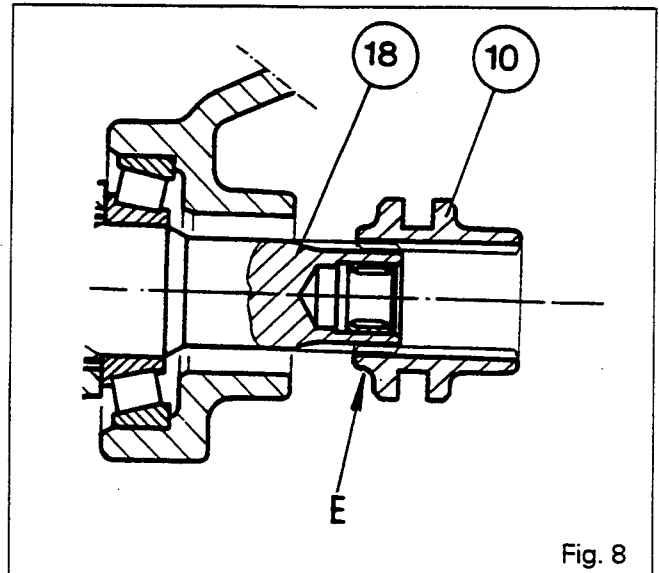
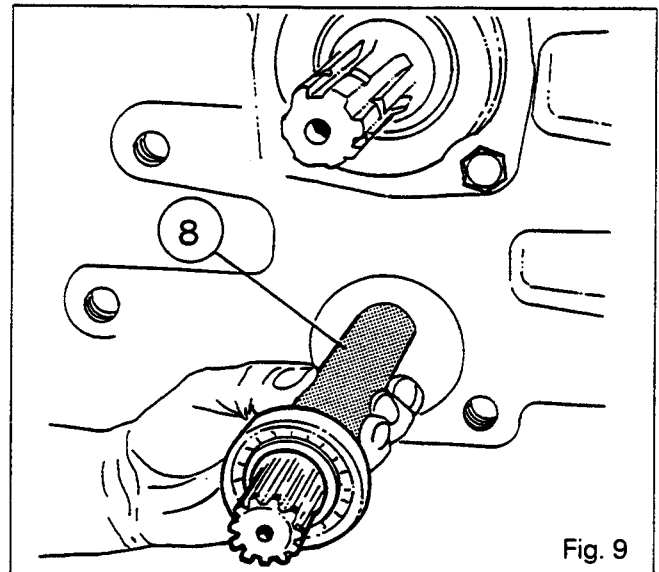
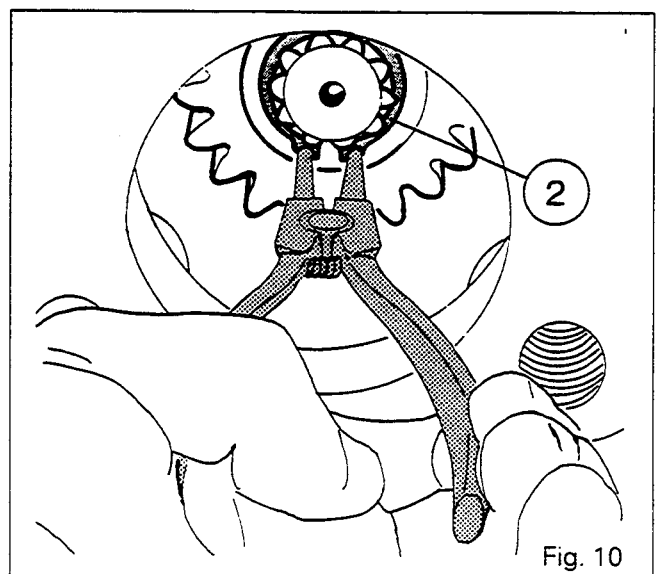

Fig. 8
Fig. 9
Fig. 10
54. Through the aperture in the cover (12), pull on the shaft, turning it back and forth, in order to seat the bearing cones correctly in the cups.
58. Remove the circlip (23) and the spacer (22). Withdraw the shaft (18) assembled with the bearing cone (19) and the circlip (17) while holding the bearing cone (15). Refit the gear (16) the shaft (18) and the cup (20).
59. Apply two spots of grease to the shims [21] selected in operation 57 and place them against the cup (20).
60. Fit the spacer (22) and the circlip (23).
61. Clean the plug (24) and its recess in the housing.
63. Place the coupler (10) on the shaft (18).
**Note: Position the small shoulder E towards the shaft (18) (Fig. 8).**
64. Fit the circlips (6) and (9) on the shaft (8).
65. Using suitable equipment, press the ball bearing (5) on to the shaft (8), until it contacts the circlip (6).
66. Check that the circlip (7) is present.
67. Mount the assembled shaft (8) in the housing (Fig. 9).
68. Mount the circlip (4).
69. Fit the pinion (3).
70. Mount the circlip (2) (Fig. 10).
71. Check the movement of the coupler (10) through the aperture in the cover (12).
72. Clean the plug (1) and the bore in the housing.